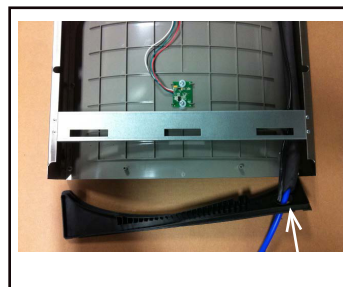

Figure 4
5. Feed 3/8" water line through hole in tower/basin gasket (See Fig. 4).